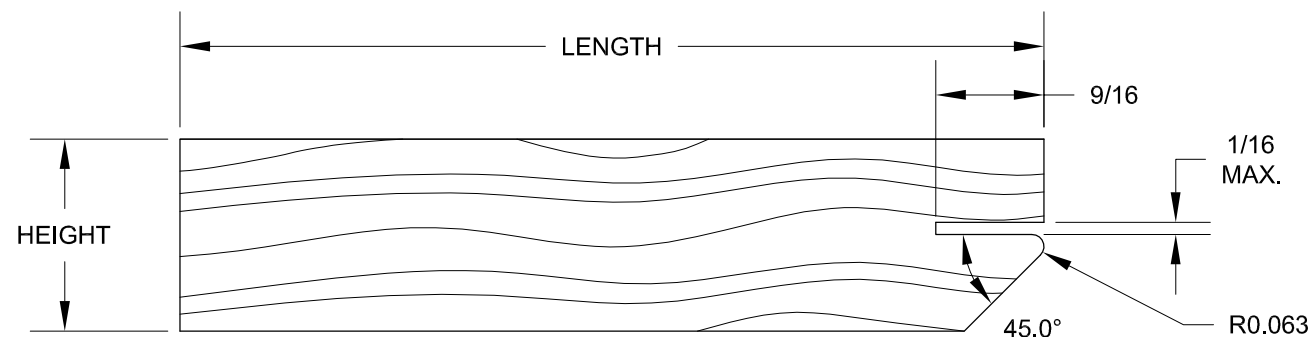

FIGURE 1: BENDING TOOL FABRICATION
Step 1: Fabricate a bending tool from a piece of wood 1/2-3/4 inches thick. See Figure 1. To use the bending tool, slide the slot in the bending block over the tab so that the edge of the tab hits the back of the slot and bend the tab. This will give the proper flange height. Bend the tabs of one of the W-1204D Wing Tip Close-Outs as shown in Figure 2. Set the bending tool aside for future use (Page 25-02, Step 1).